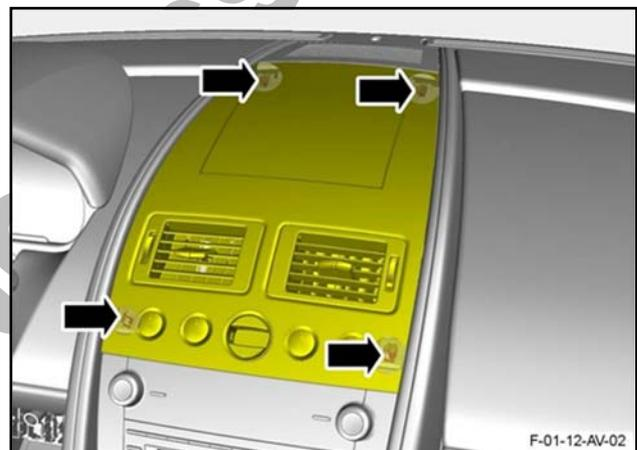

Figure 19
- 22. Install the veneer bezel to the four clips that attach it to the IP (refer to Figure 19).